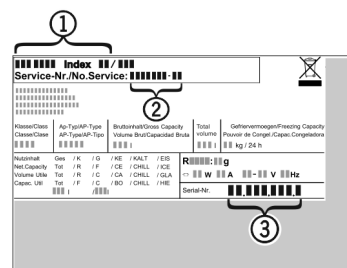

Fig. 17
- ▶ Read the appliance designation *Fig. 17 (1)*, service No. *Fig. 17 (2)* and serial No. *Fig. 17 (3)* off the model plate located inside the appliance on the left-hand side.
- ▶ Notify the customer service, specifying the fault, appliance designation *Fig. 17 (1)*, service No. *Fig. 17 (2)* and serial No. *Fig. 17 (3)*.